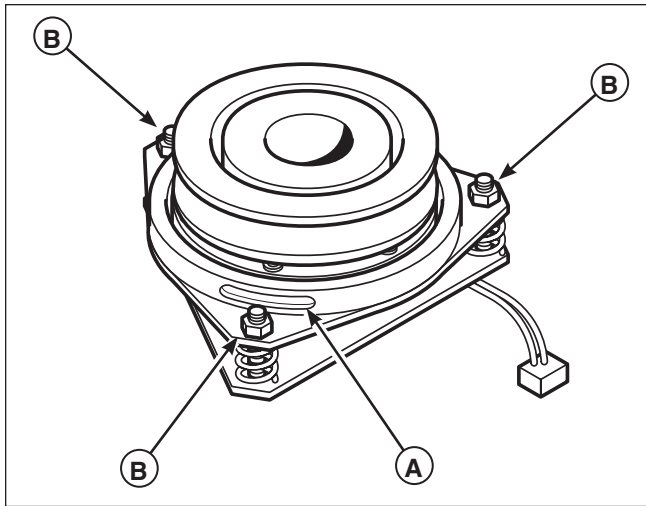

Figure 19. PTO Clutch Adjustment
2. See Figure 19. Note the position of the three (3) adjustment windows (**A, Figure 19**) in the side of the brake plate and the nylock adjustment nuts (**B**).
4. Alternatively tighten the adjustment nuts (**B, Figure 19**) until the rotor face and armature face just contacts the gauge.